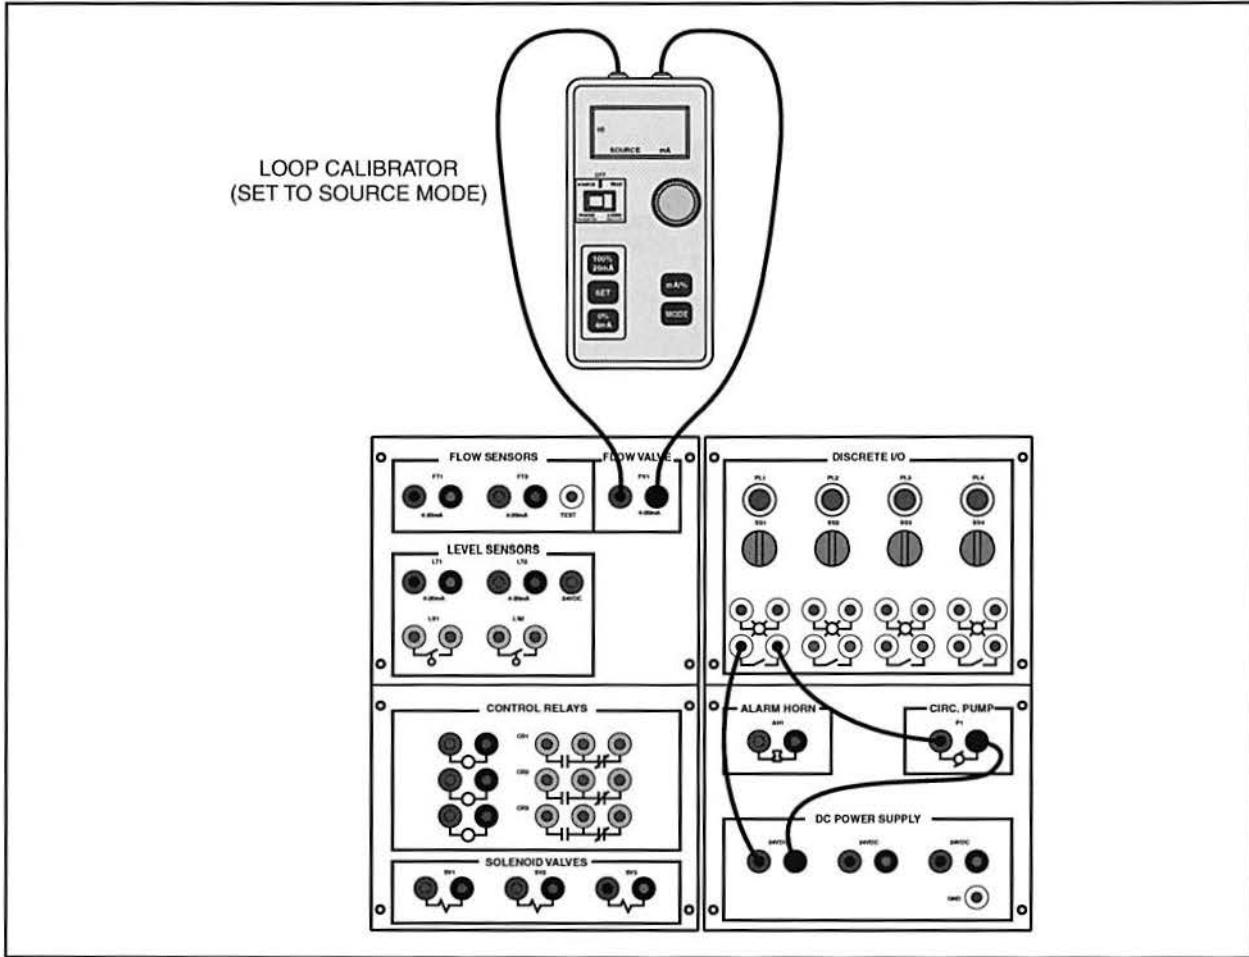
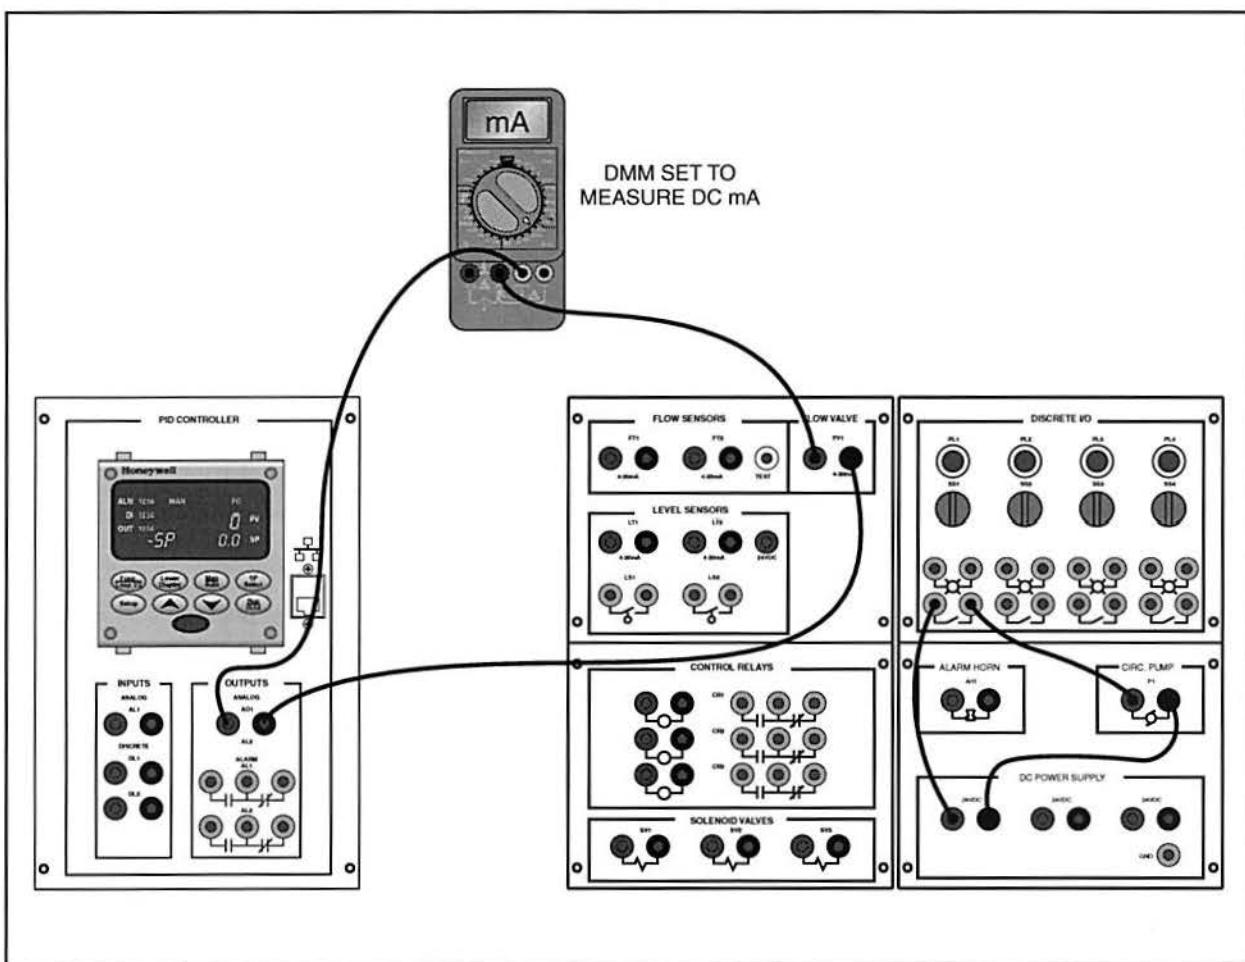

Figure 23. Loop Calibrator Connected to Supply the I/P Converter
Figure 24. PID Controller Connected to Supply the I/P Converter
3. If you have a loop calibrator, connect the circuit shown in figure 23. If you do not have a loop calibrator, connect the circuit shown in figure 24.
- The circuit in figure 23 allows you to use the loop calibrator to supply current to the I/P converter.
The circuit in figure 24 allows you to supply the current to the I/P converter using the PID controller in the manual mode. The multimeter (set to measure DC mA) allows you to measure the output current from the controller.
It is important to make sure the leads are connected with the polarity as shown in figure 24. If the polarity is reversed, the I/P converter becomes reverse acting, giving a maximum output with a 4 mA input signal and a minimum output with a 20 mA input signal.